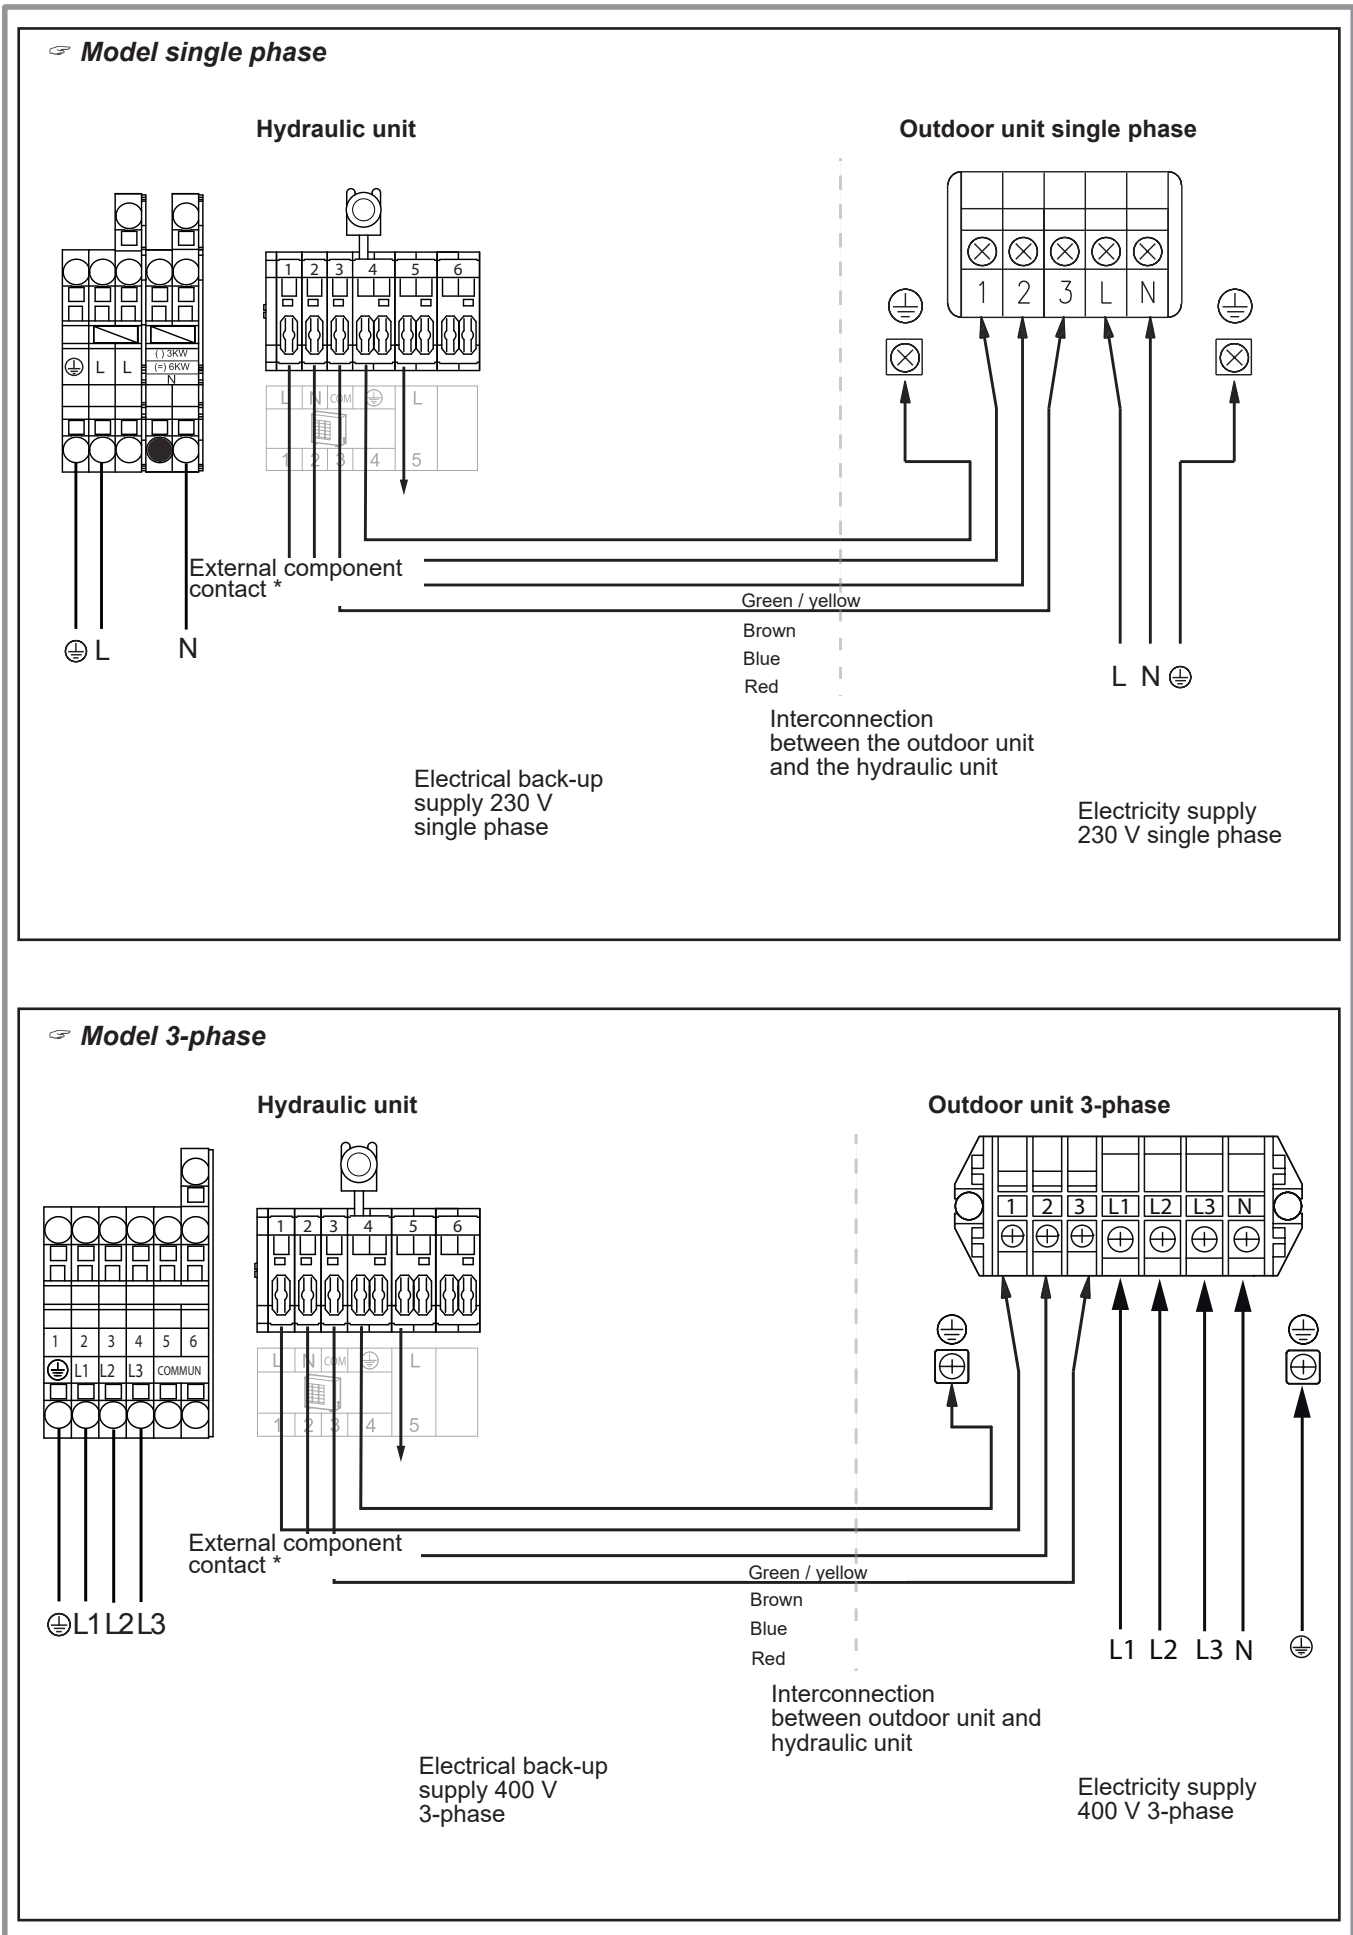

figure 38 - Connection to terminal block and power relays
- Make the connections in accordance with the diagram figure 38, page 37.
- Make the connections in accordance with the diagram figure 38.